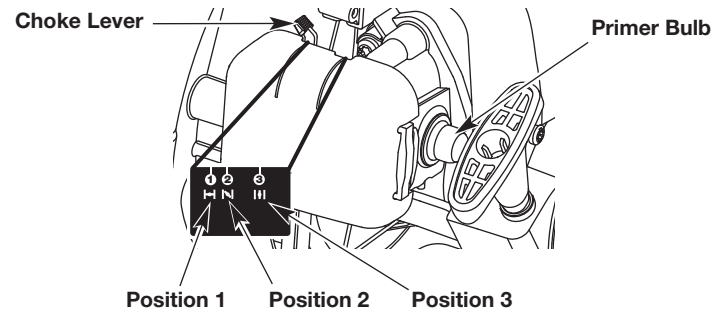

Fig. 8
3. Slowly press and release the primer bulb **10 times** (Fig. 8). If fuel cannot be seen in the primer bulb, press and release the primer bulb until fuel is visible.
4. Move the choke lever to **Position 1** (Fig. 8).
8. Move the choke lever to **Position 2** (Fig. 8).
11. Move the choke lever to **Position 3** (Fig. 8) and continue warming the engine for an additional 60 seconds. The unit may be used during this time.
**IF...** the engine hesitates, return the choke lever to **Position 2** (Fig. 8) and continue the warm-up.